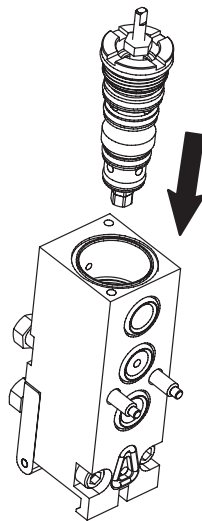

Figure 18 Installing the cartridge assembly
3. See Figure 18. Gently slide (rotating it as you push it in) the new cartridge assembly into the clean module body bore.